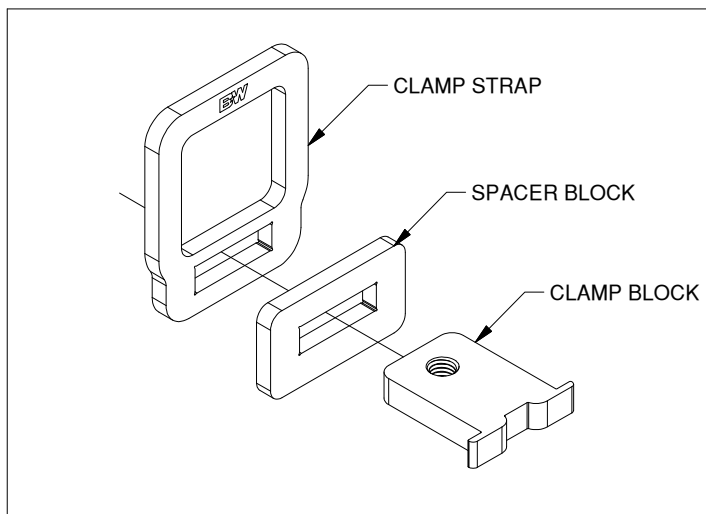

Figure B2: Silencer assembly (2" configuration).
2. **Assemble the Silencer:** Insert the clamp block through the slots in the spacer block (if needed) and clamp strap, see Figure B2.